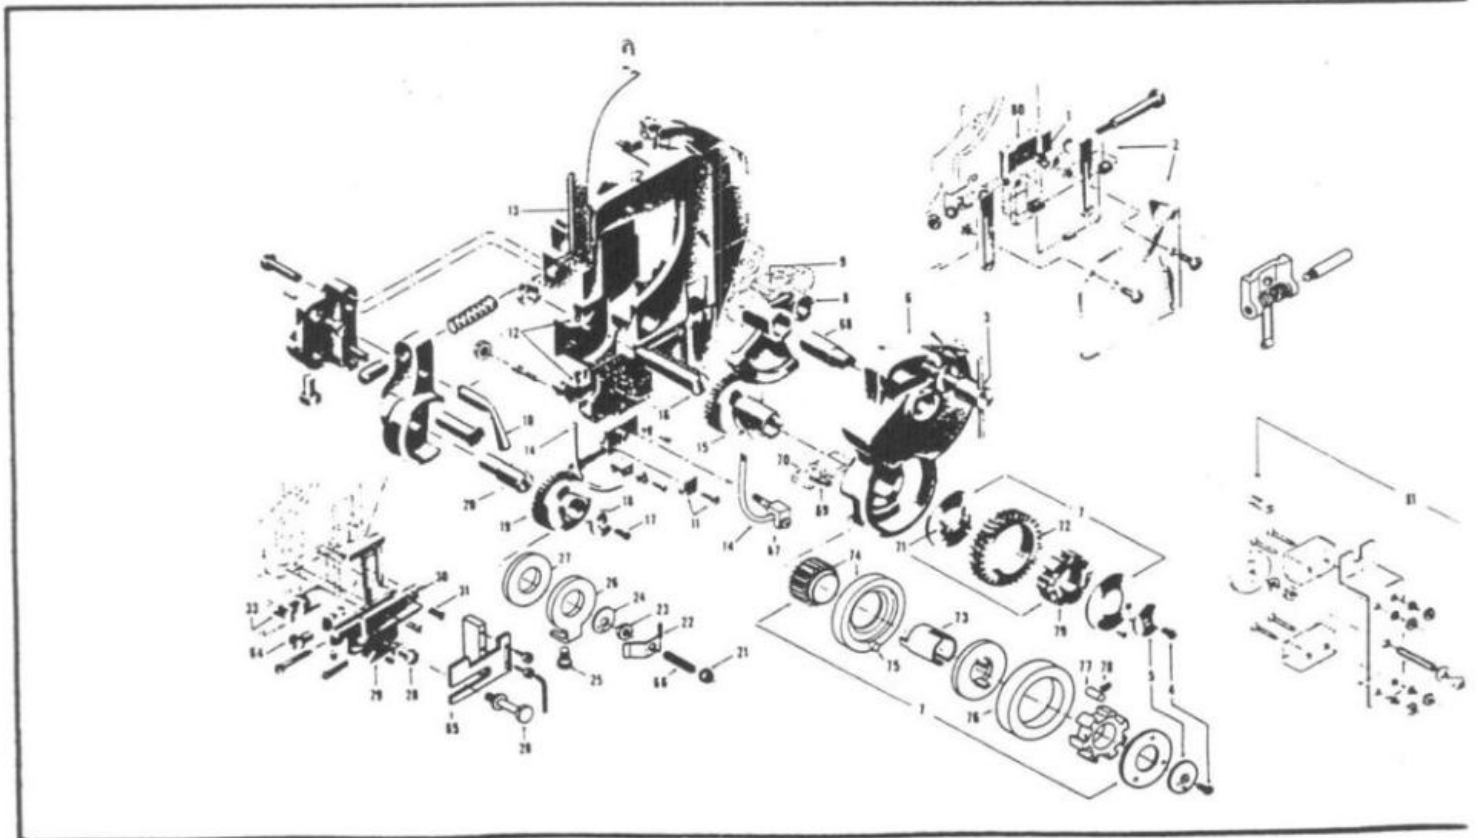

Figure 21—Disassembling and Reassembling Stitcher Head
1. HOW TO DISASSEMBLE AND REASSEMBLE STITCHER HEAD (See Fig. 21)
Figure 21 illustrates the disassembling and reassembling procedures only and is not intended to identify parts for purposes of ordering parts. For ordering parts see Fig. 22 and 23, and the accompanying Parts List.
a. HOW TO REMOVE WIRE FEED, WIRE CUTTING, AND GRIPPER ASSEMBLIES (See Fig. 21).
b. HOW TO REMOVE WIRE FORMING AND DRIVING ASSEMBLIES (See Fig. 21).
DRIVING ASSEMBLIES (See Fig. 21).
d. HOW TO REINSTALL WIRE FEED, WIRE CUTTING, AND GRIPPER ASSEMBLIES (See Fig. 21).